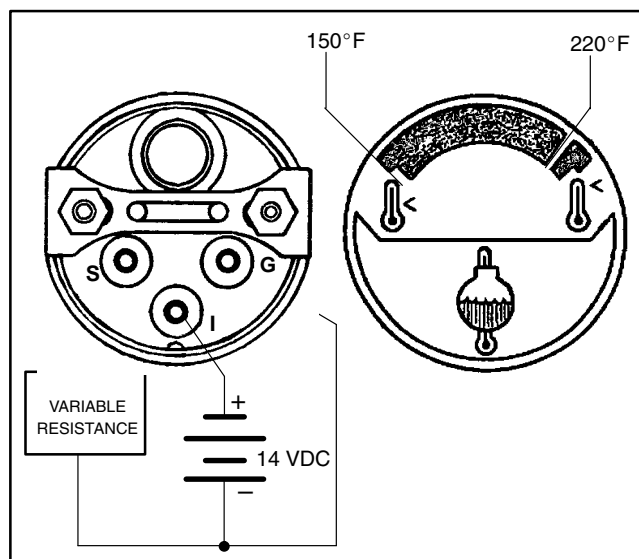

Figure 34
1. Connect the temperature gauge to the variable resistance and DC voltage source (Fig. 34).
2. Adjust resistance until the gauge needle points to following test points on the gauge (Fig. 34):